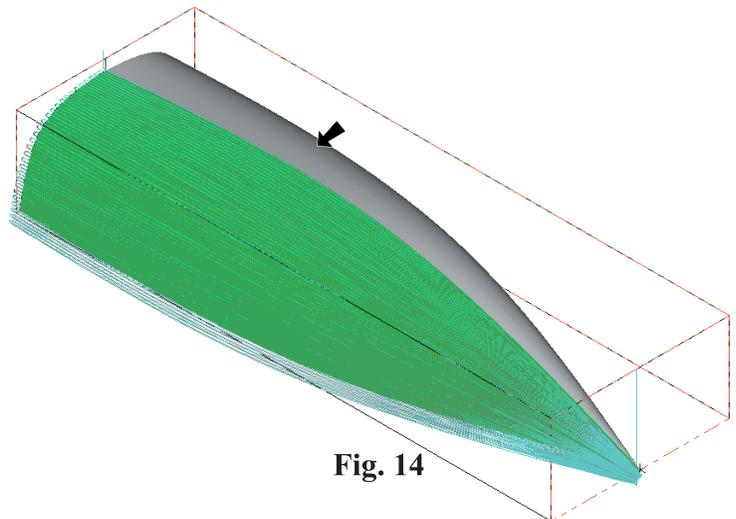

Fig. 14
Step 27. Click the other surface, **Fig. 14**.